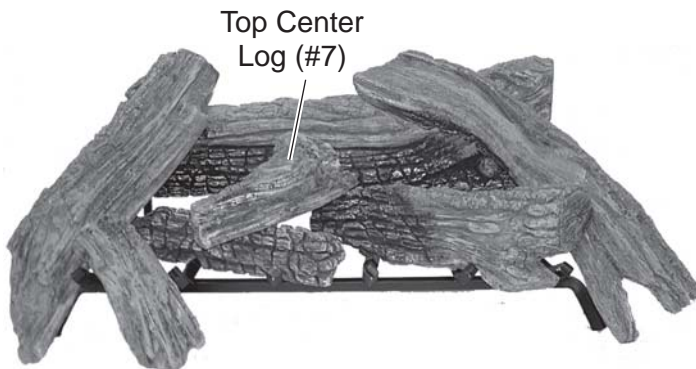

Figure 90 - Resting Center Top Log (#7) Bottom left Log and Back Log
8. Rest Top Center Log #7 on bottom left log #2 and back log #1. See Figure 90.